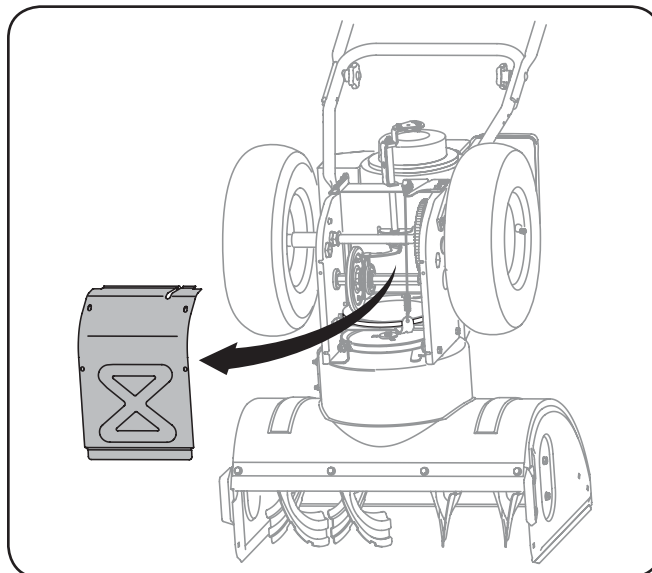

Figure 7-3
3. Remove the frame cover from the underside of the snow thrower by removing the self-tapping screws which secure it. Refer to Fig 7-3.
5. Remove the frame cover from the underside of the snow thrower by removing the self-tapping screws which secure it. See Fig. 7-3.
5. Remove the frame cover from the underside of the snow thrower by removing the self-tapping screws which secure it. Refer to Fig. 7-3.